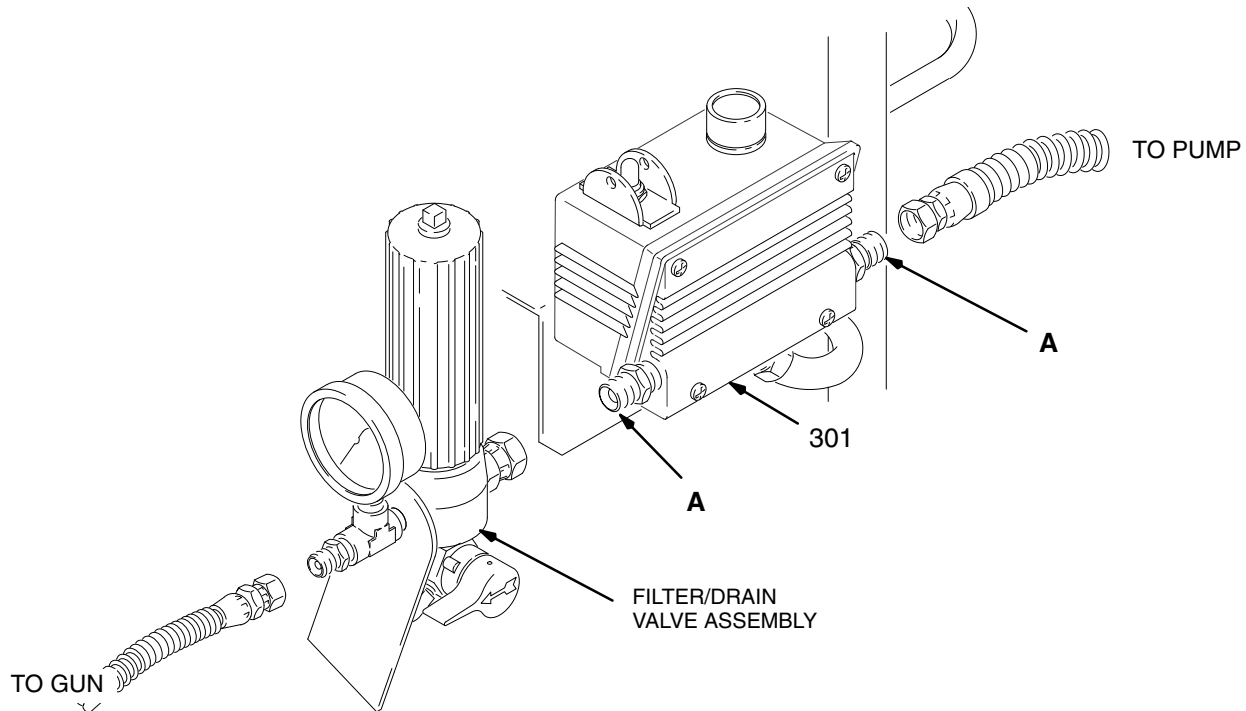

Fig. 17
2. Disconnect the filter/drain valve assembly and the pump supply hose at the pressure control while holding the pressure control fitting (A) firmly. See the **CAUTION**, below. See Fig. 17.